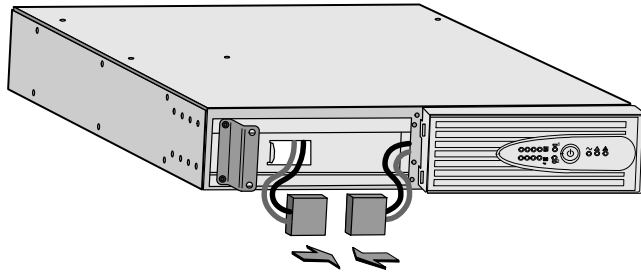

Figure 2. Connecting the Internal Battery Connectors
2. Connect the internal battery connectors by firmly pressing the connectors together (see Figure 2).